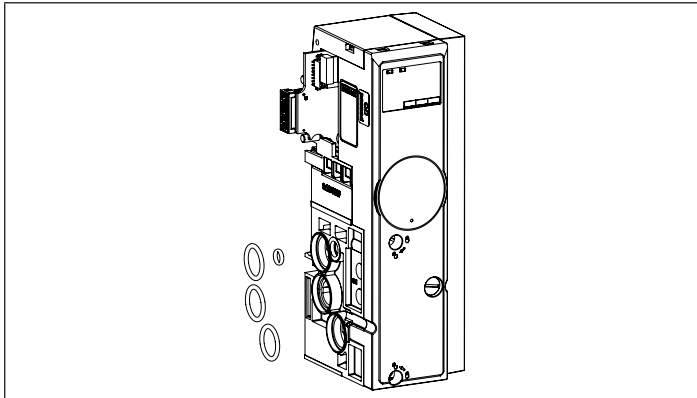

Fig. 20: Pneumatic module sealing rings
- Lightly grease the sealing rings of the pneumatic modules ("Fig. 20") with installation oil.